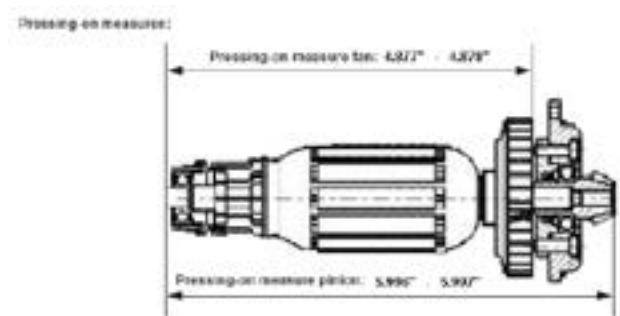

fig. 6
- 21, 25** When replacing a fan (25) on armature assembly (21), refer to illustration shown in fig. 6 for press dimensions.
- 43, 51** Install a new spring ring retainer (43) if removed from reduction gear shaft (51).